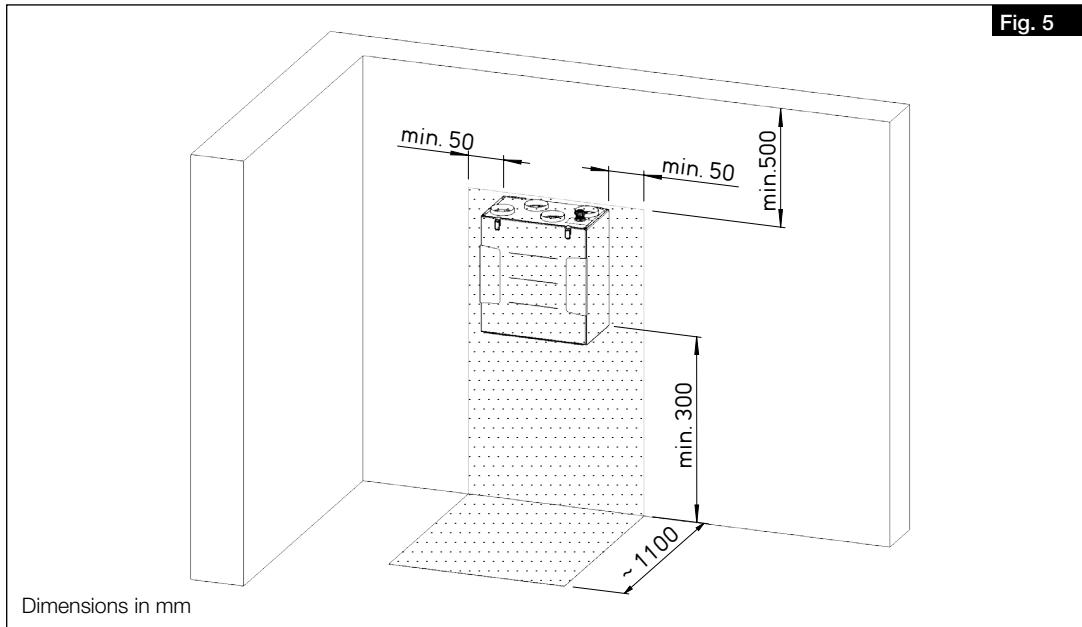

Fig. 5
The unit and terminal box must be freely accessible for maintenance and installation work. The following minimum clearances to the wall, floor and ceiling must be observed and adhered to (see Fig. 5).
3. There must be sufficient space to allow easy access to the unit. At least 50 cm must be kept clear above the unit and at least 30 cm must be kept clear below the unit for maintenance work (cf. Fig. 5).
4. An additional 30 cm space must be kept clear on the unit side for the installation of the external terminal box (cf. Fig. 5).
5. In order to ensure safe condensate drainage, the unit must be mounted so that the bottom edge is at least 300 mm above the ground (cf. Fig. 5).